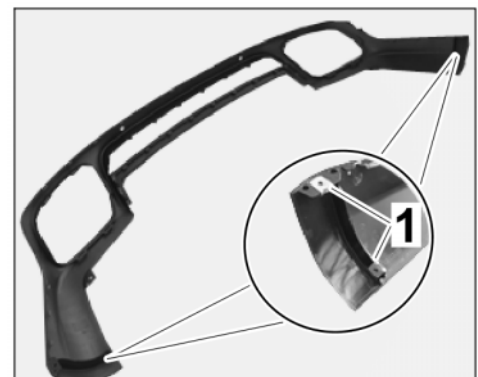

Figure 7
- 2.3 Remove speed nut ST4.8 (4 x) from (standard) rear skirt and install it on the side of the new (prime-coated) rear skirt (⇒ *Figure 7*).